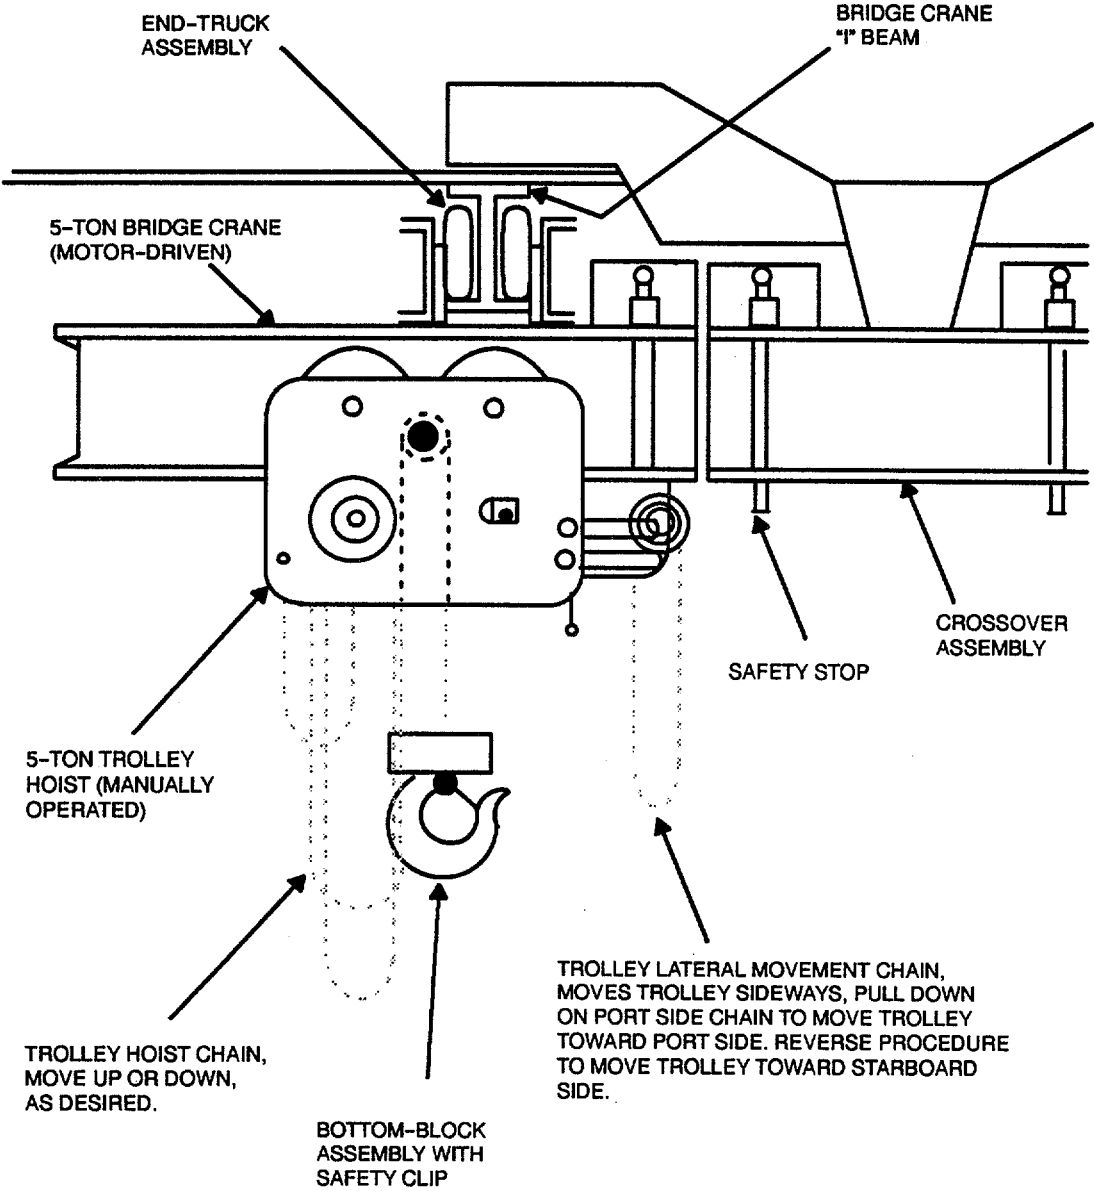

Figure 3-1. Bow Crane in Traveling (Stowed) Position
The crane is corrosion-proof and suitable for operation in a marine environment. The crane has five major assemblies: crane body, inner boom, outer boom, mounting base, and hydraulic control unit. When not in daily use, bow crane must be placed in its traveling (stowed) configuration (Figure 3-1). The crane body is a steel casting with the upper part being a closed welded box design through which hydraulic hoses are routed to inner and outer boom actuating cylinders. Inner and outer boom assemblies are positioned, as required, by extending or retracting hydraulic actuators. A winch assembly is mounted on top of the primary element of the boom for retrieving loads of 10,000 pounds or less. To winch loads greater than 10,000 pounds, the sheave block must be installed on the end of the outer boom.
**3-9** **General.** The hydraulically operated bow crane is used to launch and retrieve the barge's workboat and to load and unload the shore winch. When not in daily use, place bow crane in traveling configuration (Figure 3-1).